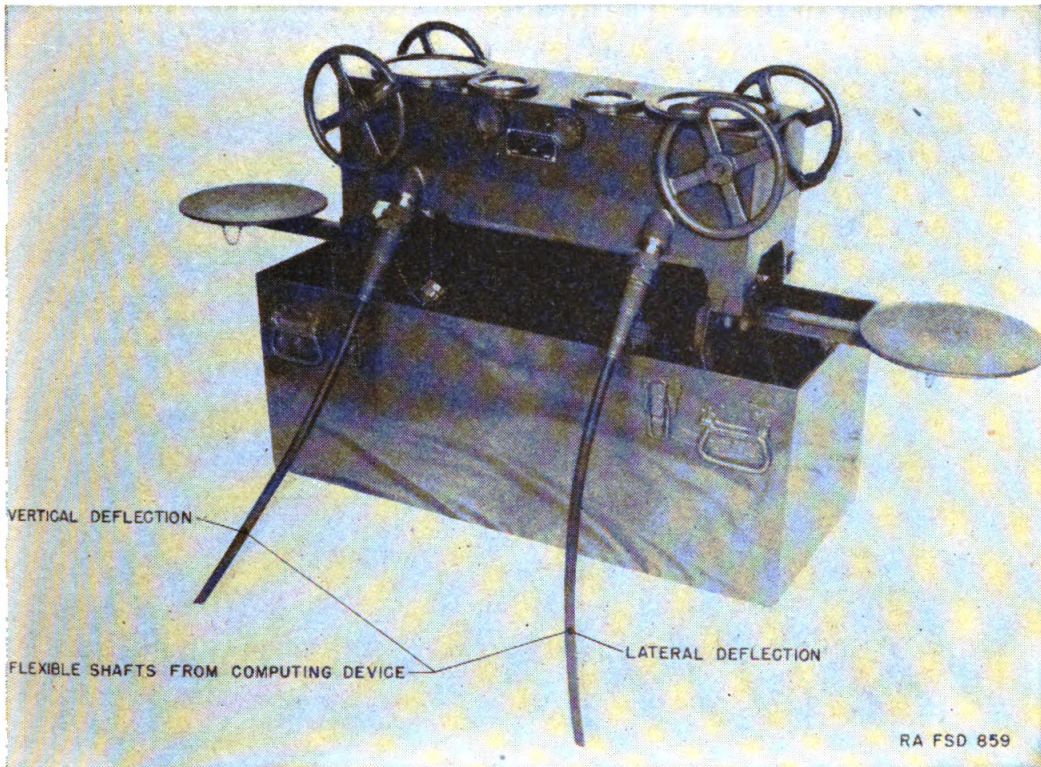

FIGURE 85.—Automatic gun antiaircraft control equipment set M1—input side.
*e. Care and preservation.*—(1) Exercise particular care to prevent burring, denting, or nicking of the reference surfaces and of the notched portion of the frame.
(2) Do not leave the quadrant on the gun when firing.
(3) When not in use, keep the quadrant in the chest provided, with the shoes forming the reference surfaces lightly greased.
**93. Set, control equipment, automatic gun, antiaircraft M1.**—One automatic gun antiaircraft control equipment set, M1 (figs. 85 and 86) is furnished for each firing unit of two 37-mm automatic gun carriages M3 and M3E1. The complete set consists of the control box, eleven 50-foot flexible shafts (including one spare), and the necessary packing chests for control box and flexible shafts.
at the ends of the packing chest. Insert the split pins in the holes. Slide the seats outward to the desired location, removable split pins being provided under each seat to permit this adjustment. Place the control box on the blocks ahead of the seats and screw the wing screws upward securely into the threaded holes in the base of the box. The appearance of the control box and packing chest, when ready to operate, is as shown in figures 85 and 86.